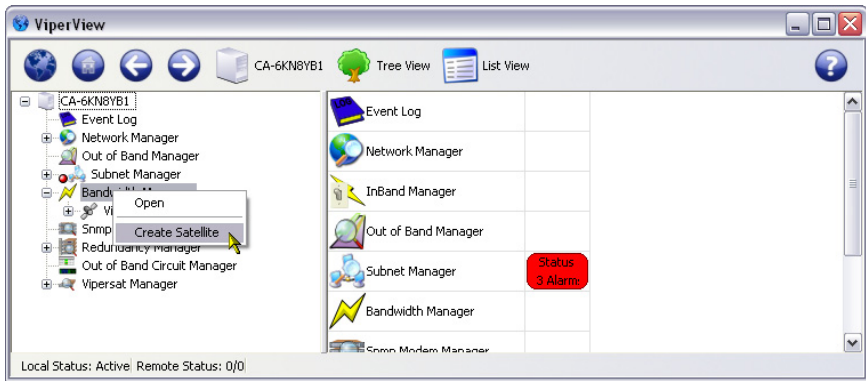

Figure 3-12 Create Satellite menu command
1. Right-click on the Bandwidth Manager and select **Create Satellite** from the drop-down menu (figure 3-12).